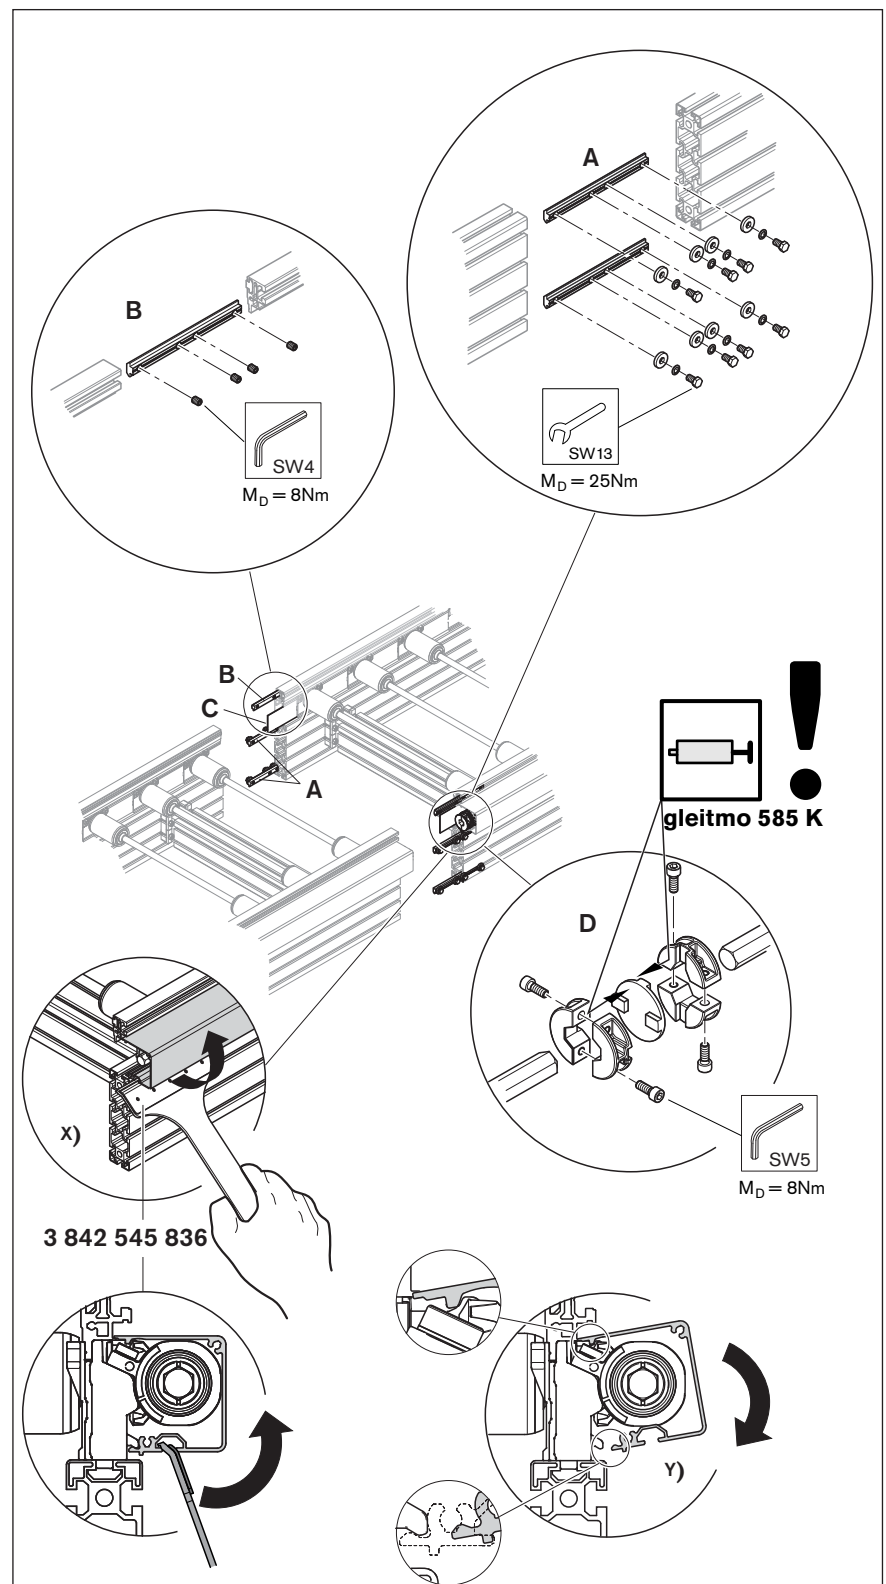

Fig. 12 Connection kits
3. Insert the connector (☞ Fig. 12: A, B, Fig. 27) in the grooves, and insert the intermediate plates (☞ Fig. 12: C, Fig. 27).
4. Align the next conveyor unit longitudinally, transversely, and vertically with the already-standing conveyor unit and connect them (☞ Fig. 12, Fig. 27).
5. Connect the king shaft with the coupling (☞ Fig. 12, Fig. 27). To do this, disassemble the covers on the king shaft (☞ Fig. 12, Fig. 27).
- ▶ Place the disassembly tool **3 842 545 836** on the cover and lift up the cover (Fig. 12, x).
- ▶ Place the cover on the bearing pedestal and snap it in (Fig. 12, y).
1. Insert the connector ( Fig. 12: A, B,  27) in the grooves of the already standing conveyor unit, and insert the intermediate plates ( Fig. 12: C,  27).
2. If necessary, place the drive unit on a leg set ( Fig. 12,  27).
3. Align the drive unit longitudinally, transversely, and vertically with the already-standing conveyor unit and connect them ( Fig. 12,  27).
4. Connect the king shaft with the coupling ( Fig. 12: D,  27). To do this, disassemble the covers on the king shaft ( Fig. 12,  27). The king shaft covers are connected to the adjacent covers for stabilization. The connectors are included in the scope of delivery.
2. Insert the connector (☞ 27, ☞ Fig. 12: A, B) in the grooves, and insert the intermediate plates (☞ 27, ☞ Fig. 12: C).
3. Align the curve longitudinally, transversely, and vertically with the already-standing conveyor and connect them (☞ 27, ☞ Fig. 12).
4. Attach the following conveyor unit, align with the curve longitudinally, transversely, and vertically, and connect them (☞ 27, ☞ Fig. 12).
5. Connect the king shaft with the coupling (☞ 27, ☞ Fig. 12: D). To do this, disassemble the covers on the king shaft (☞ 27, ☞ Fig. 12: X), Y)).
2. Insert the connector (☞ Fig. 12: A, B) in the grooves, and insert the intermediate plates (☞ Fig. 12: C).
3. Align the diverter/junction longitudinally, transversely, and vertically with the already-standing conveyor unit and connect them (☞ Fig. 12).
4. Attach the following conveyor unit and align longitudinally, transversely, and vertically with the diverter/junction and connect them (☞ Fig. 12).
5. Connect the king shaft with the coupling (☞ Fig. 12: D). To do this, disassemble the covers on the king shaft (☞ Fig. 12: X), Y)).